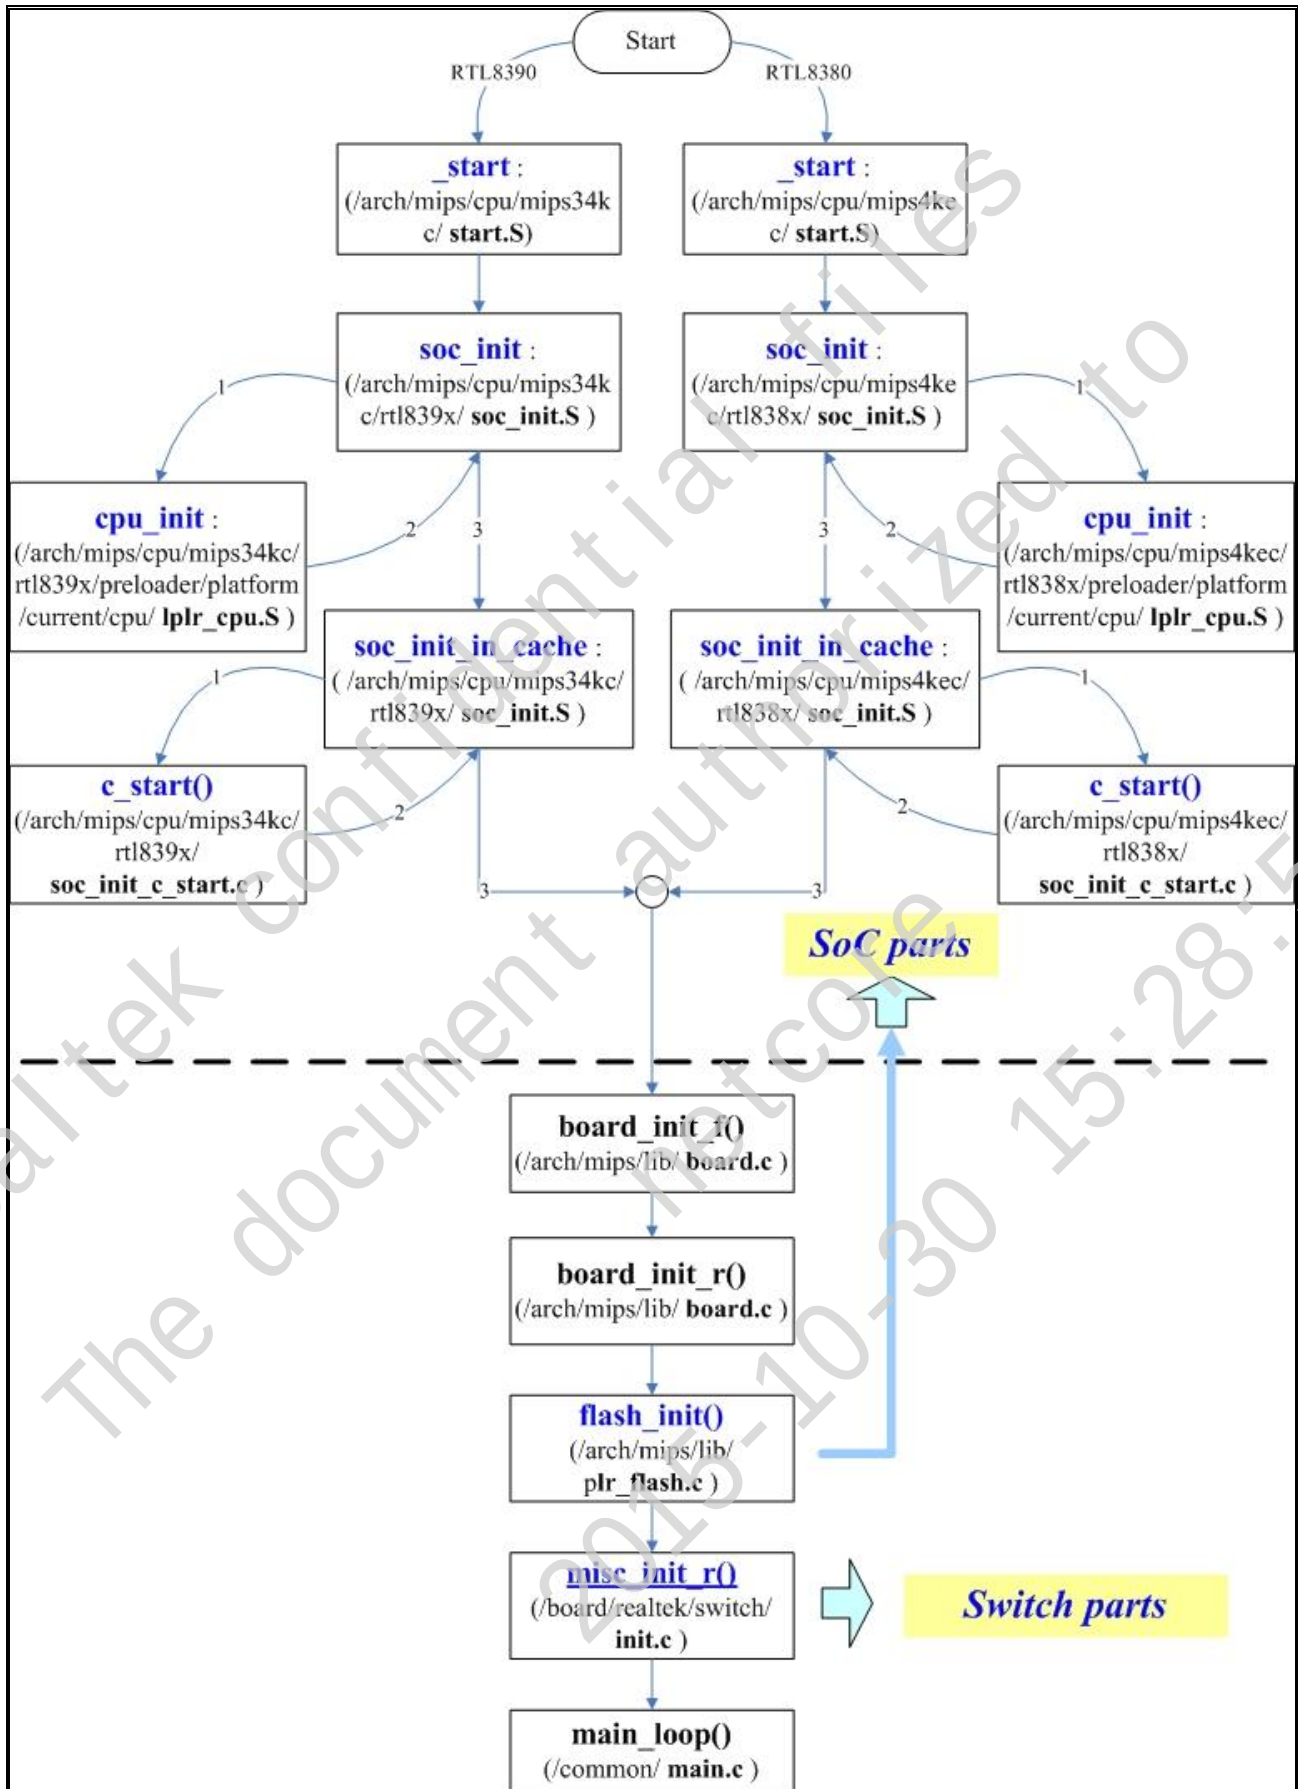

Figure 3.2-1. boot up main flow chart
Please refer the Figure 3.2-1, the brief whole boot up flow chart is shown.
- CPU initialization is done by assemble code in SoC parts in Figure 3.2-1.
The Figure 3.2-1 shows the APIs' are called sequence and the flash_init() API is called in the bottom half of U-Boot-2011.12 image.